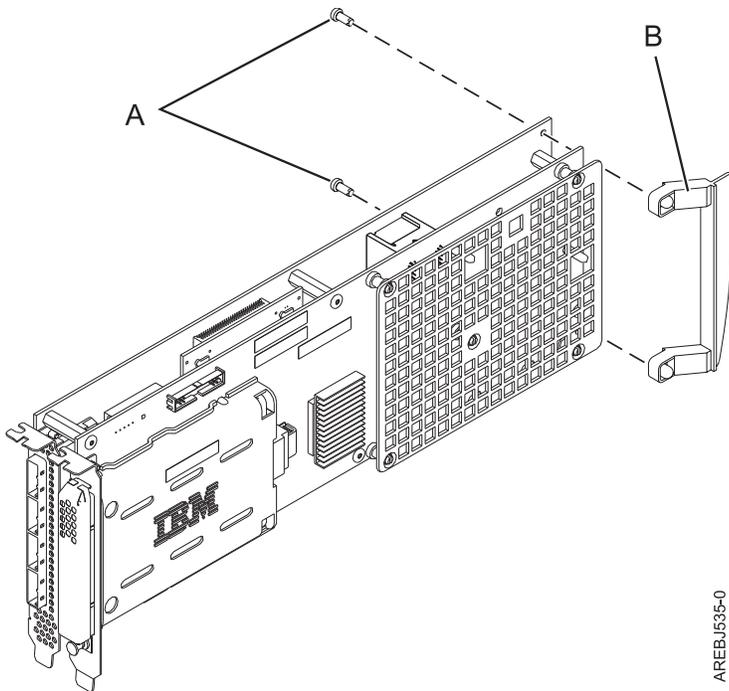

Figure 34. Cassette adapter handle attachment
- a. Remove the adapter handle **B** as shown in Figure 34 on page 46.